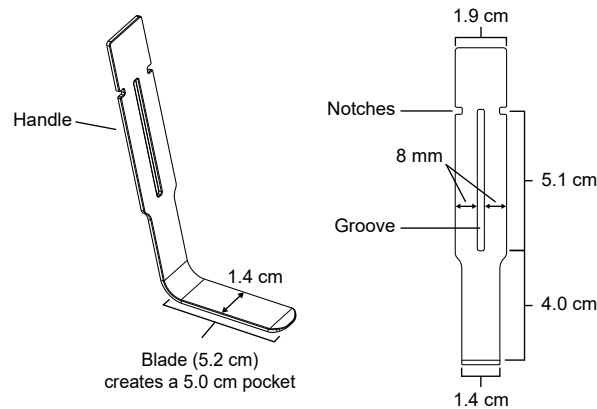

Figure 3. Model P71001 pocket dissector specifications for the implant procedure. (Dimensions are approximate.)
- Surgical instrument for creating the pocket: Medtronic Model P71001 pocket dissector – sterile, single use – is recommended (Figure 3)